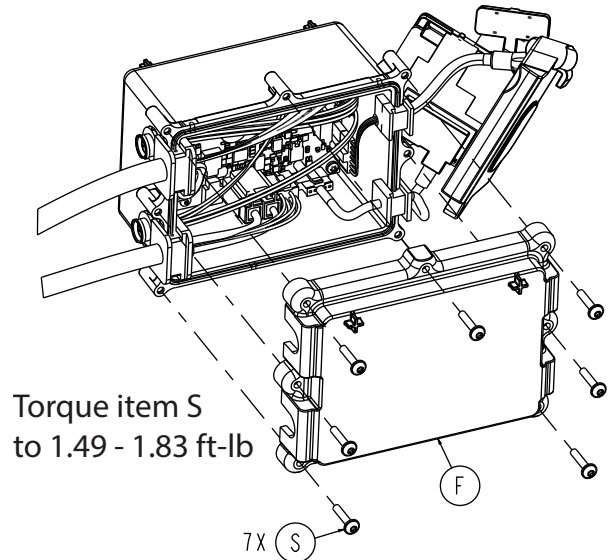

Figure 49 – Remove the HBC top cover screws
10. Using a T20 Torx driver, remove the seven round washer head tapping screws (S) that secure the top cover (F) to the HBC enclosure assembly (Figure 49). Remove and save the top cover. Save the screws.